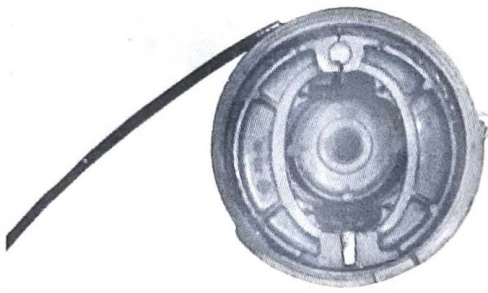

Fig. 15
- (2) Make sure the brake shoes and springs are correctly installed in the shoe plate assembly. If any one of them is out of place, correct per the figure. (Fig. 15)
- (3) Install the brake shoe plate assembly in the wheel hub.